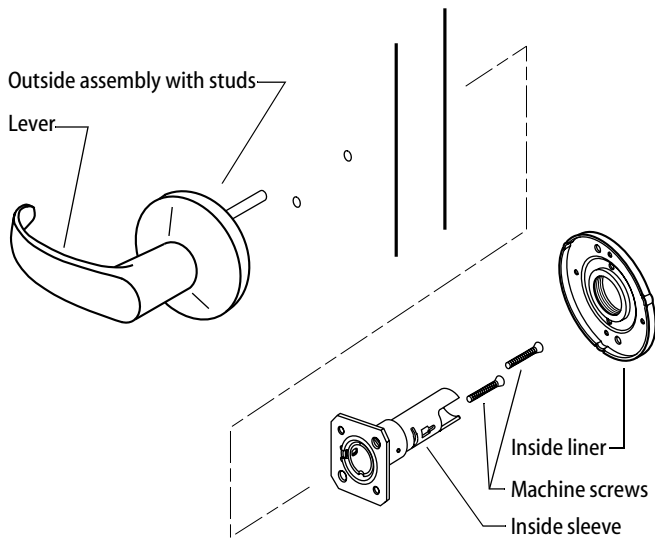

Figure 6 — Installing the 9K double dummy trim
- 4 Press on the rose over the liner assembly. See Figure 6.